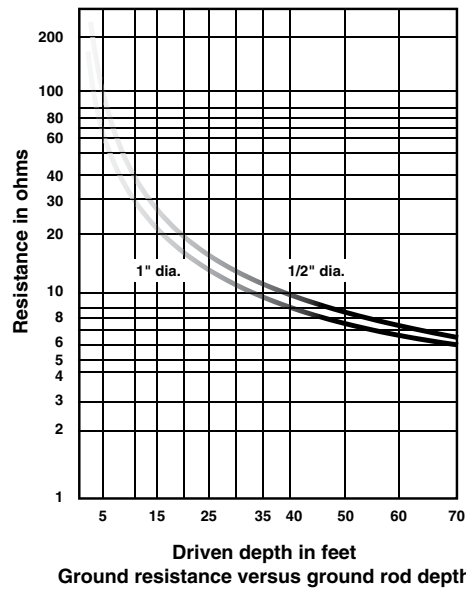

Figure 11
Depth: As a ground rod is driven deeper into the earth, its resistance is substantially reduced. In general, doubling the rod length reduces the resistance by an additional 40% (Figure 11). The NEC (2008, 250.52 (A)(5)) requires a minimum of 8 ft. (2.4m) in contact with the soil. NEC (2008, 250.52 (A)(5)(b)) states that rod electrodes of stainless steel and copper or zinc coated steel shall be at least 15.87mm (5/8 in) diameter, unless listed and not less than 12.70mm (1/2 in) in diameter.